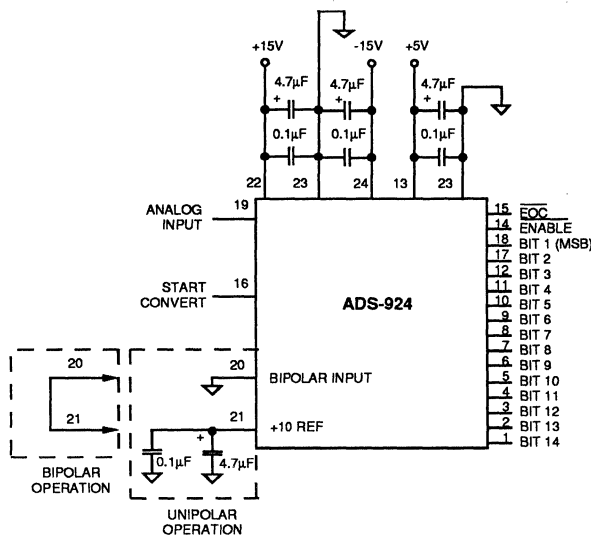

Figure 3. Typical Input Connections for the ADS-924
- Applications which are unaffected by endpoint errors or remove them through software will use the typical connections shown in Figure 3. Remove system errors or adjust the small initial errors of the ADS-924 to zero using the optional external circuitry shown in Figure 4. The external adjustment circuit has no effect on the throughput rate.
- Connect the converter per Figure 3, Figure 4, and Table 2 for the appropriate full-scale range (FSR). Apply a pulse of 200 nanoseconds minimum to the START CONVERT input (pin 16) at a rate of 250 KHz. This rate is chosen to reduce flicker if LED's are used on the outputs for calibration purposes.